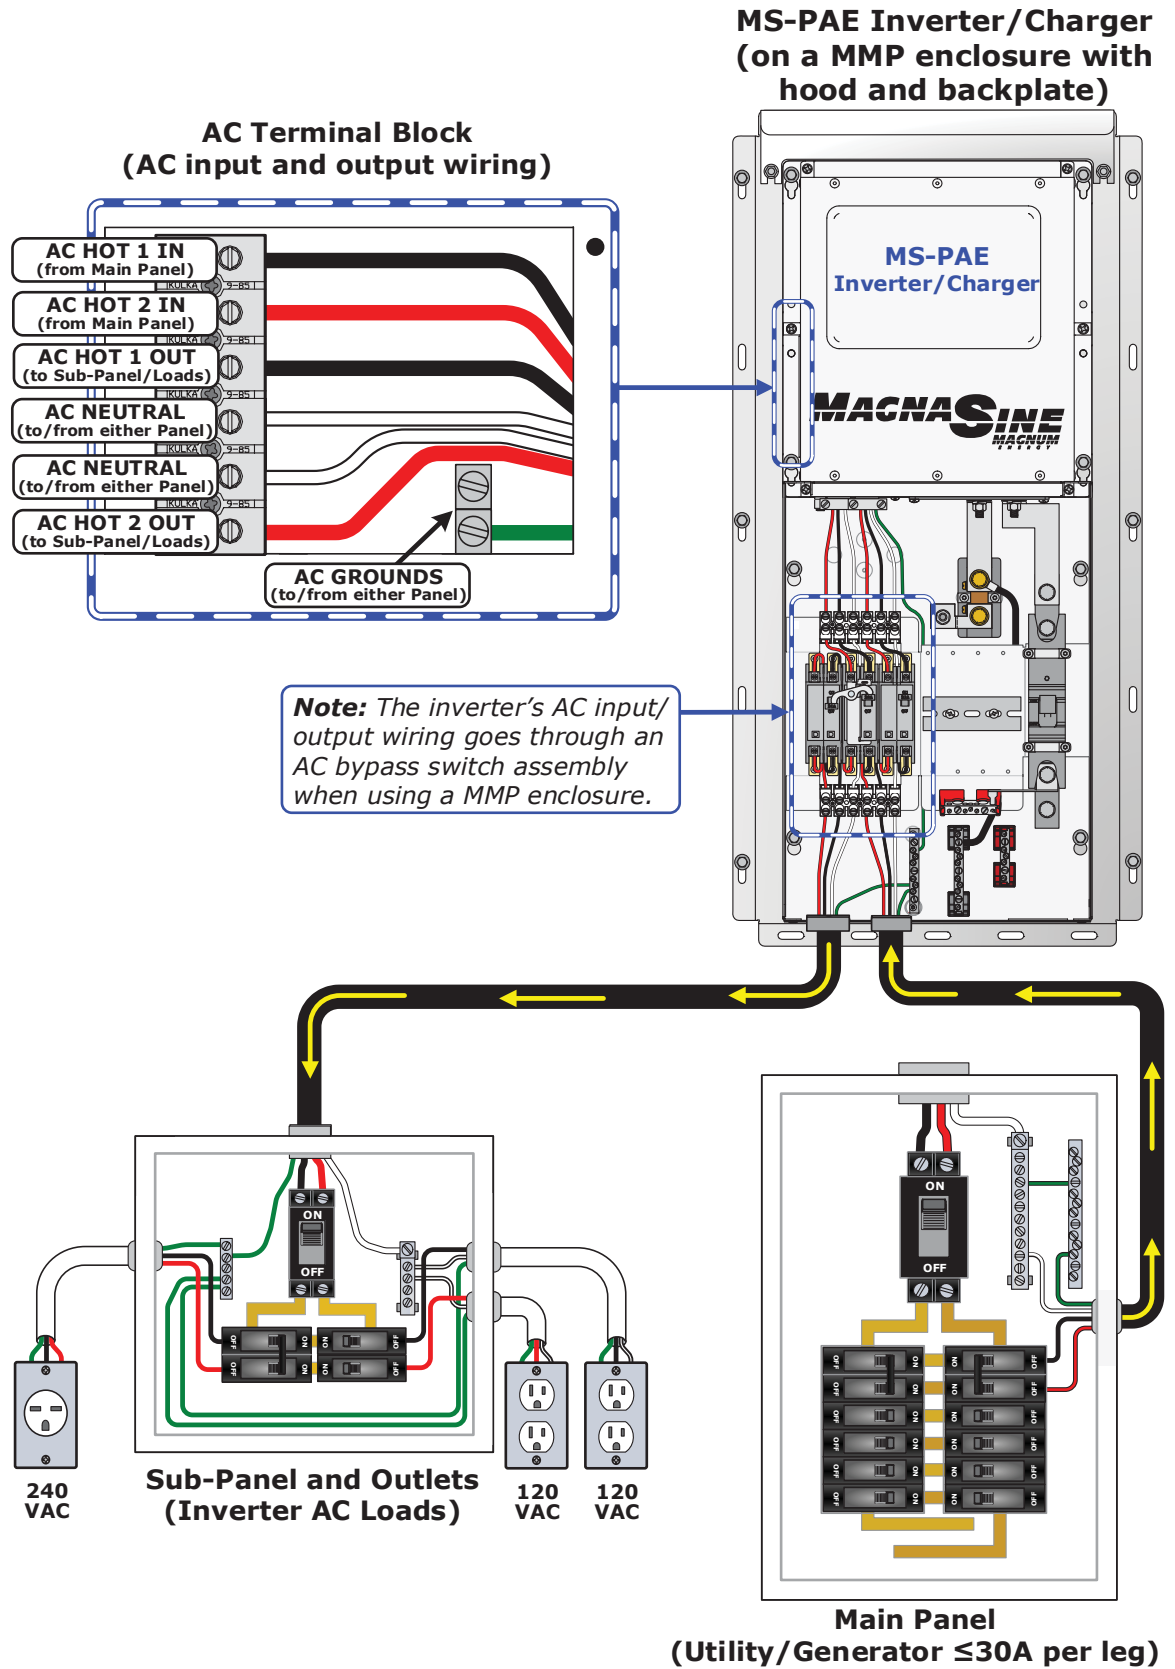

Figure 2-9, AC Wiring (Single unit on a MMP enclosure)
This section provides information on how to make the AC connections to the inverter using the correct AC wire size and the corresponding overcurrent protection. Refer to Figure 2-9 for a visual overview of the AC wiring. (**Note:** the MS-PAE inverter in Figure 2-9 is installed on a MMP enclosure.)
**Note:** If you are installing the MS-PAE inverter(s) on a MMP/MP enclosure, refer to the respective enclosure owner's manual for all AC wiring instructions (as an example, Figure 2-9 shows the AC wiring for a MS-PAE inverter installed on a MMP enclosure).